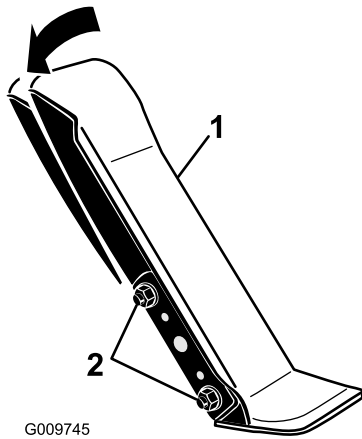

Figure 60
1. Loosen the 2 nuts and bolts securing the left side of the traction pedal to the bracket (Figure 60).
2. Pivot the pedal to the desired operating angle and tighten the nuts (Figure 60).